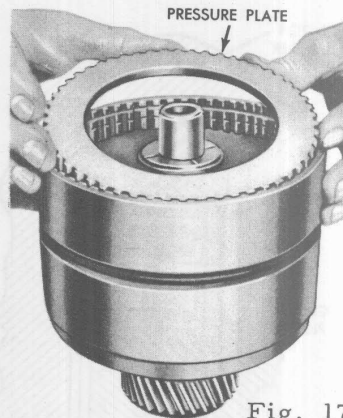
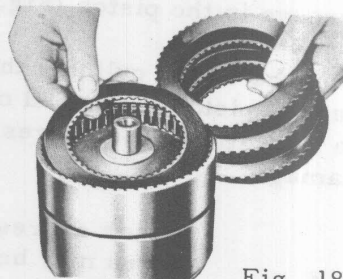

Fig. 17
Fig. 18
- ☒ Install the pressure plate in the clutch cylinder with the bearing surface up (Fig. 17). Install the four bronze and three steel clutch plates alternately. Start with a bronze plate (Fig. 18).